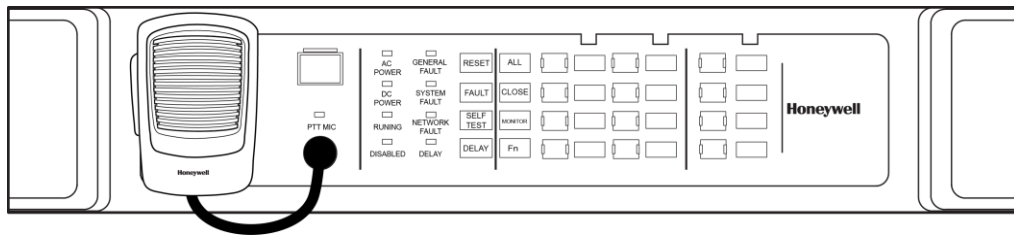

**Figure 8 Schematic Diagram of Cabinet Grounding**
The cabinet door shaft contains one yellow screw as shown in Figure 8, identified with marker ①. Figure 8, marker ②, represents another grounding terminal in the same position in the cabinet. Connect the two terminals with a wire.
The DCS and DA grounding terminals must be connected to the terminal blocks through flexible cables with a cross-section of  $1.5\text{mm}^2$  within the cabinet, as shown in Figure 8.